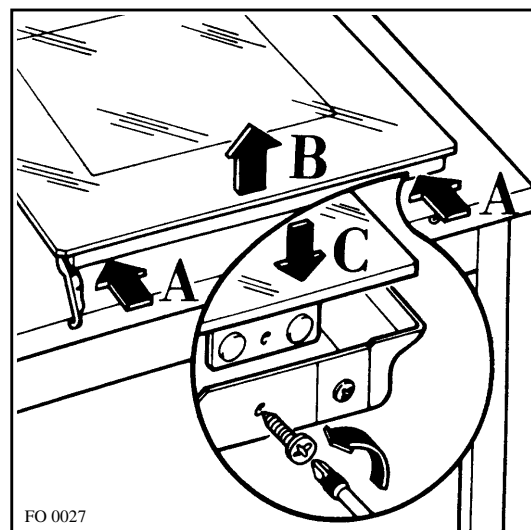

Fig. 14
- e) gently pull the oven door off its site (fig. 14);
- g) unscrew the two screws marked with lett. **A** fig.14;